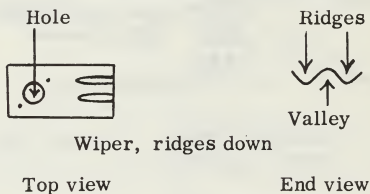

Figure 24 — Unbent wiper
12. Wipers. In between the jumper and the bolt, in the assembled multiple switch, is inserted a wiper, a springy piece of phosphor bronze with a hole and two small ridges. The shape of the wiper unbent, as it comes in the small envelope, is shown in Figure 24. The purpose of the wiper is to improve the electrical contact between the top of the switch (the disc containing the jumpers) and the bottom of the switch (the panel containing the bolts and nuts for the terminals). These wipers have been patented (2848568).